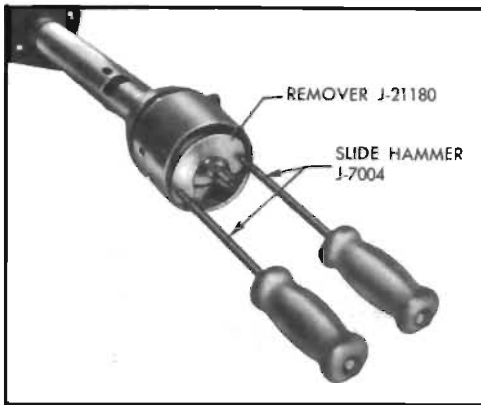

Figure 8-81—Removing Cover from Mast Jacket
5. Assemble two Slide Hammers J-7004 to Remover J-21180 and install inside cover as shown in Figure 8-81. Hold edges of Remover J-21180 against rim of cover and evenly work cover off of mast jacket.